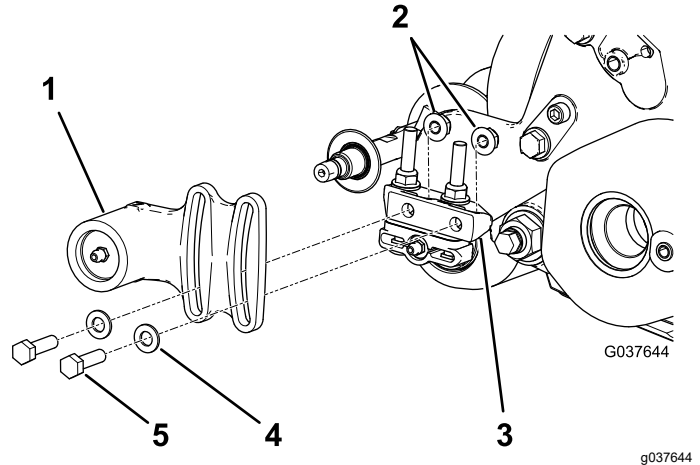
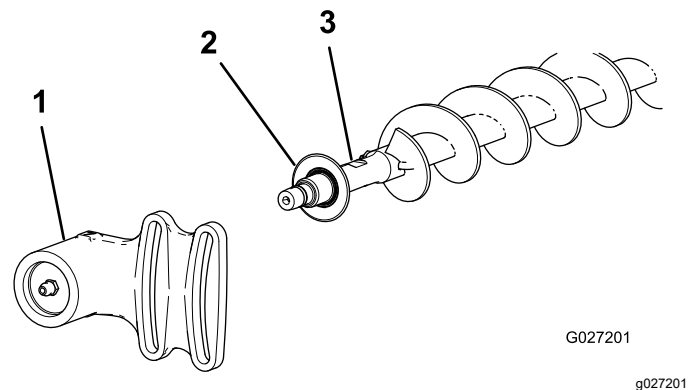

Figure 20
Figure 21
1. If a roller brush is installed on the cutting unit, remove the 2 bolts, washers, and nuts securing the non-drive bearing housing to the bearing-housing mounting bracket (Figure 20 and Figure 21).
2. Slide the non-drive bearing housing and the excluder seal off the brush shaft (Figure 21).
9. Install the excluder seal and the non-drive bearing housing onto the brush shaft (Figure 21).